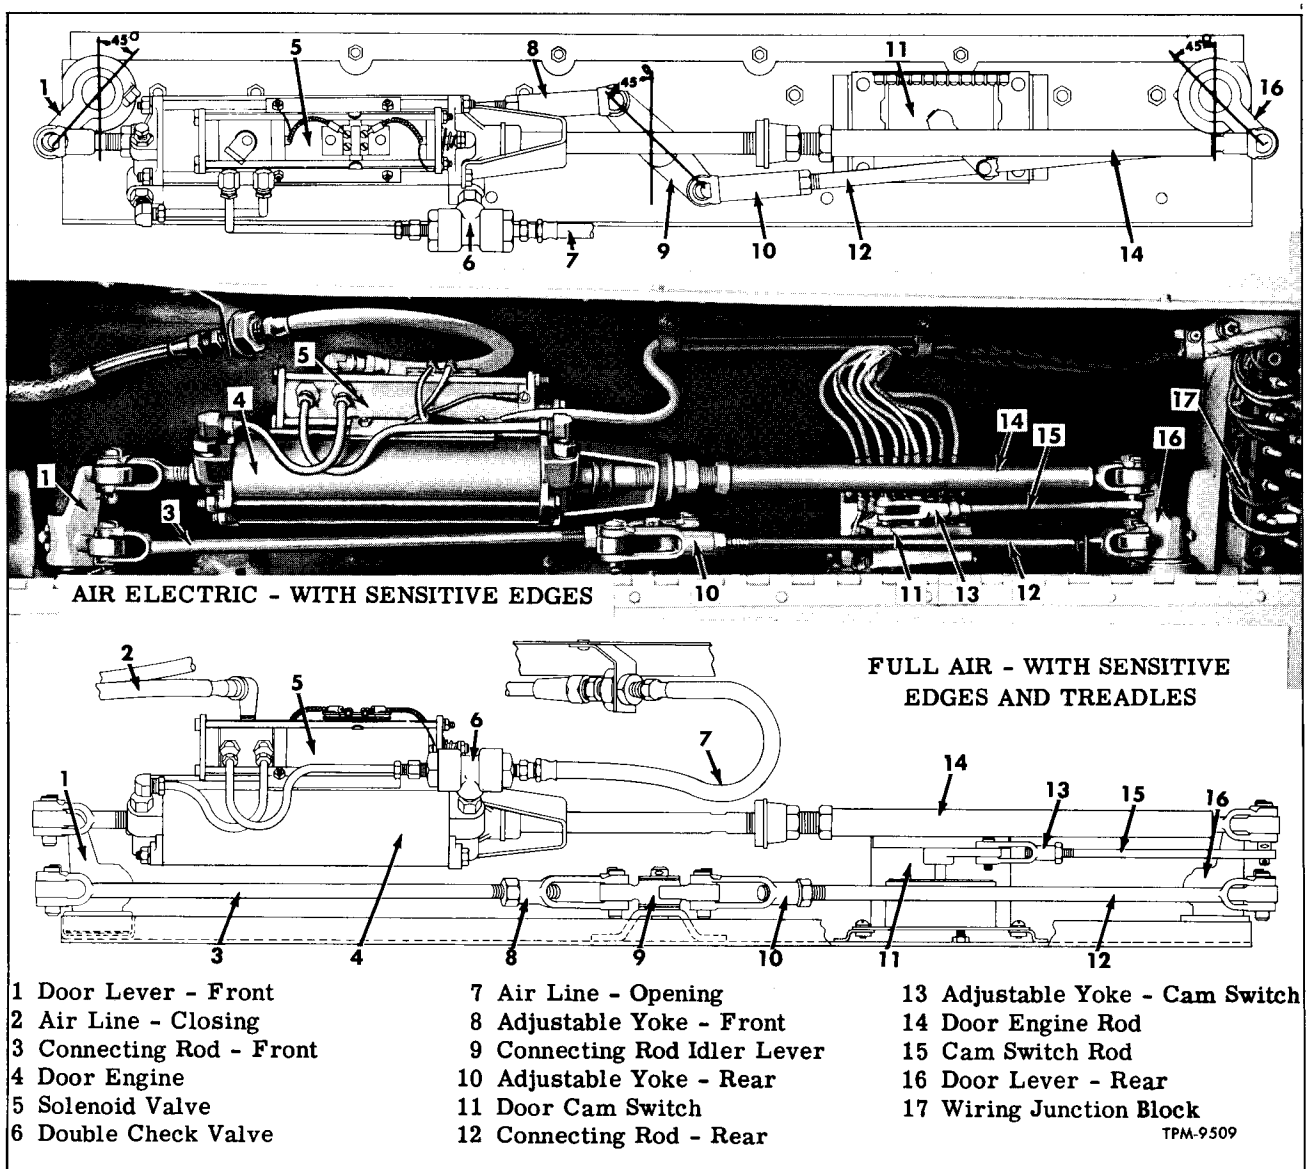

Figure 13—Rear Door Engine and Linkage—Four Leaf Folding
Following pages contain information on doors and controls available as special equipment. As special equipment, many coaches are equipped with outward folding four leaf rear doors, sometimes called "jack-knife type." Controls for this type door is illustrated in figure 13.
Operation of four leaf folding "jack-knife" doors is similar to standard push-type doors previously covered in this section, that is, each is controlled by the operator and use "full air" or "Air-electric." Typical air-electric door operating mechanism is shown in figure 13.
2. Check angle of front and rear door levers to be sure they are set at 45° angle (fig. 13). If necessary, loosen clamp bolt and reset lever to proper angle and re-tighten clamp bolt to 45-50 foot-pounds.